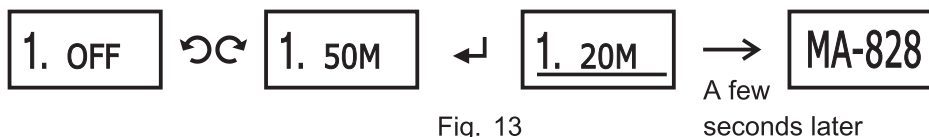

Fig. 13
- (A) Press DSP Control Rotary Knob **23** at the home screen and turn it right to select DELAY. Press the knob again to set parameters.
- (B) Turn the knob right or left for 1. OFF or 2. **←**.
- (C) Press and hold “OFF” until the underline disappears and opens for the distance setting. Turn the knob to increase or decrease parameters every 1M within 50M.
- (1) Select the desired parameter (e.g. 20M) and press the knob. 1. 20M is underlined to denote the delay distance. A few seconds later, it will exit to the home screen. Fig. 13